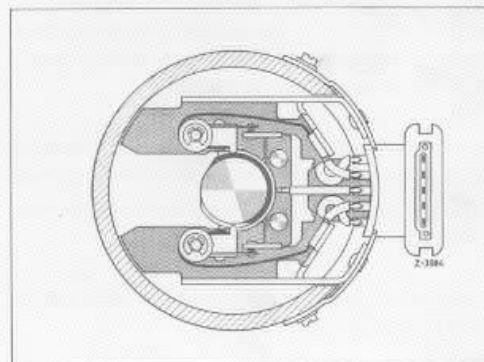

FIG.12
2. The beginning of injection is signaled to the control unit by the IMPULSE SENDING UNIT (Fig. 12), or also referred to as distributor trigger points.